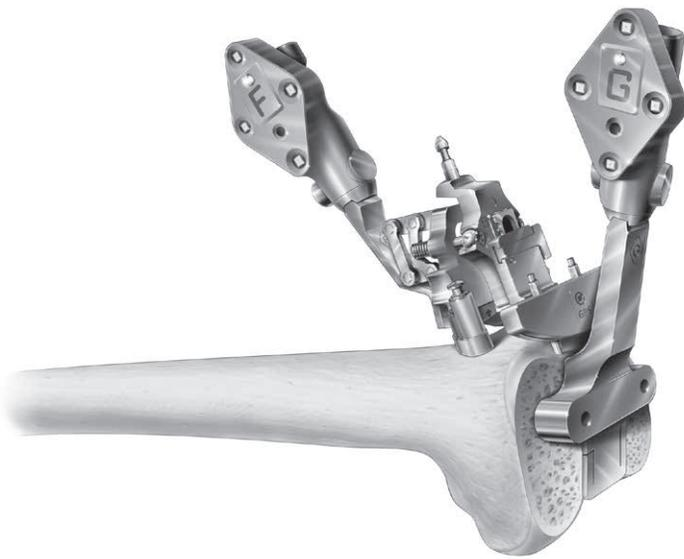

Figure 26
Assemble the Guide Tracker (G) to the Blade Drill Guide such that the tracker faces the Display Unit (Figure 26). Place the Blade Drill Guide against the distal femur to verify the resection and modify as necessary. With the blade drill guide positioned against the distal femur, press the Forward button on the display unit. Alternatively, press the Forward button on the Probe Tracker (P) to advance to the next screen. The system will record the actual distal resection and update the femoral planning accordingly.